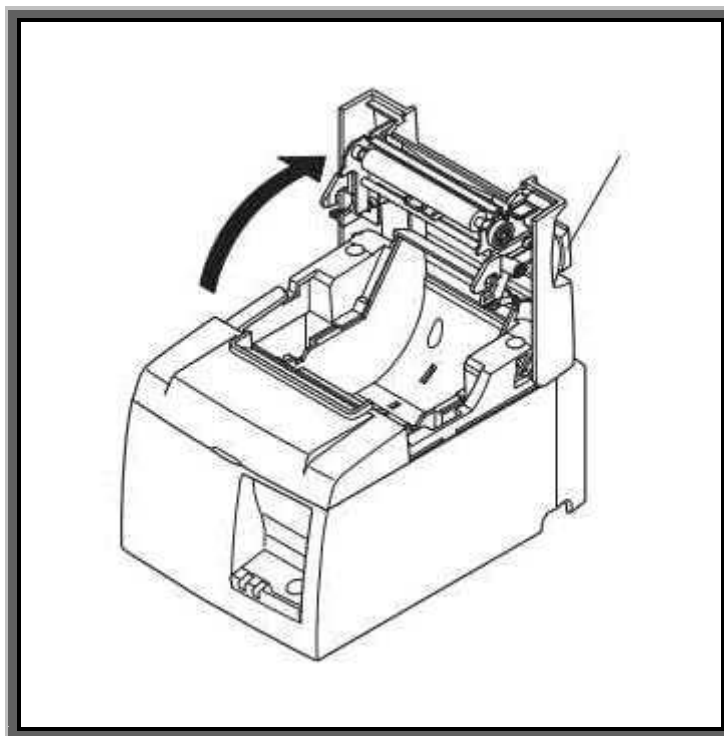

Fig. AP1-2
2. Open the printer top cover as shown in Fig. AP1-2.